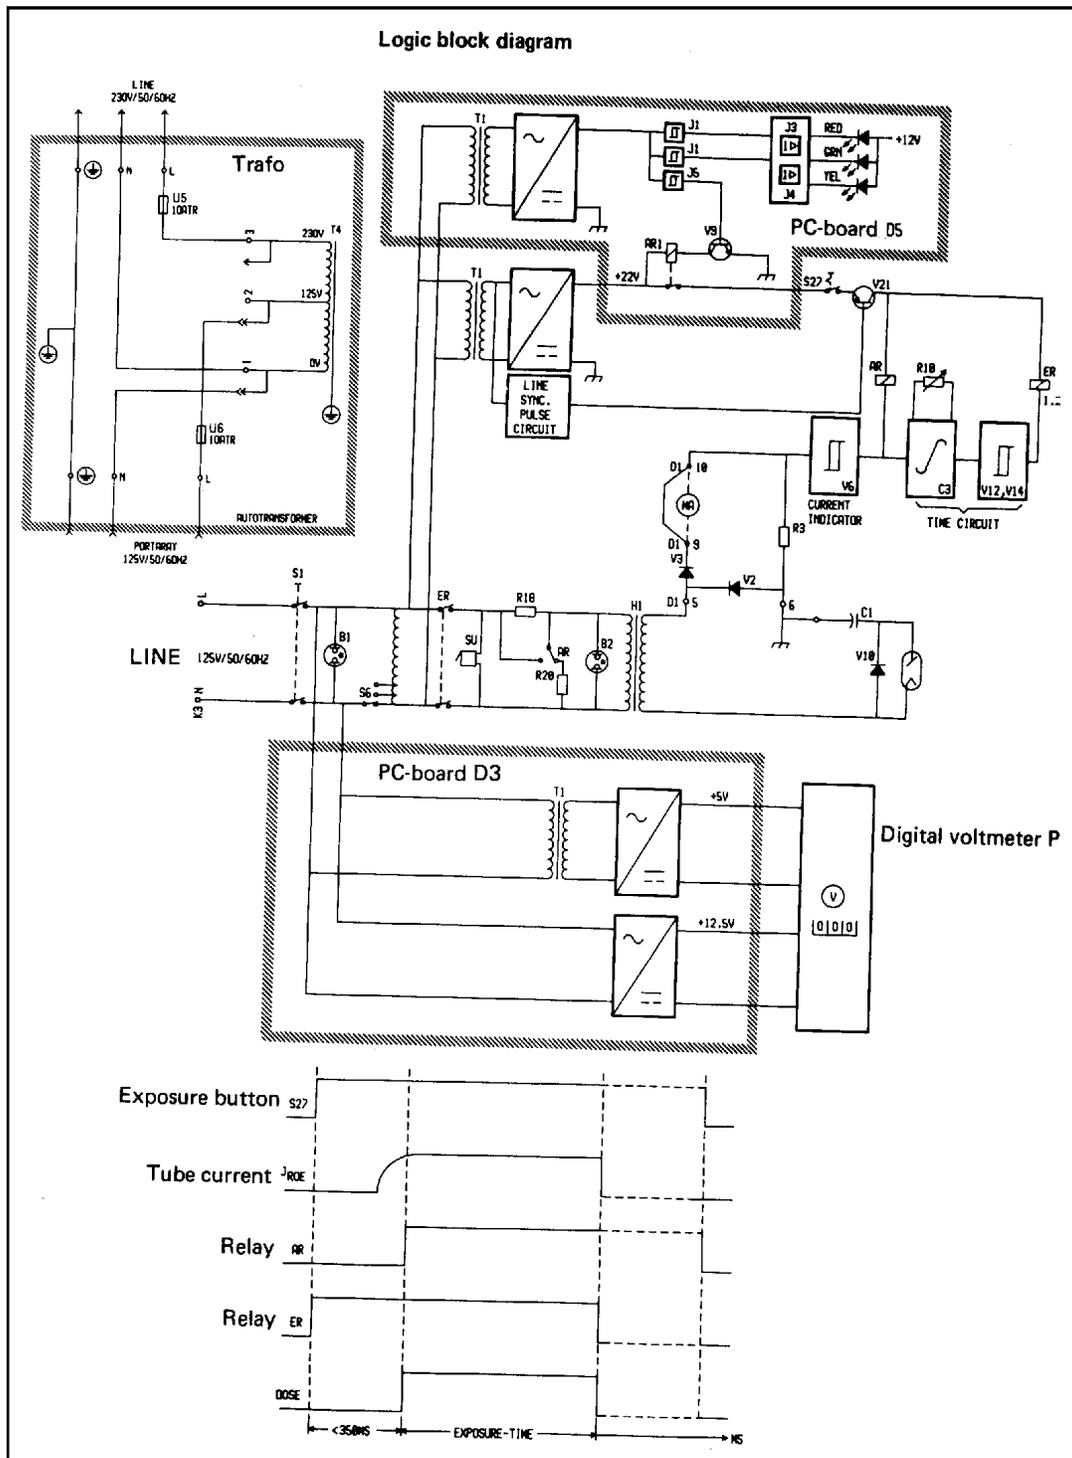

Figure 3-21
5. Troubleshoot and isolate the malfunction to module/board level. (See Figures 3-21 through 3-27).